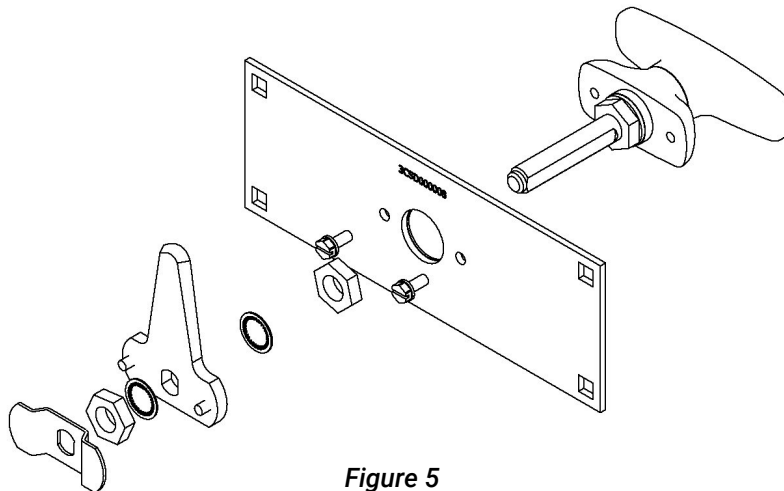

Figure 5
- A. T-handle: Place T-handle on the front face of lock plate and secure to the back side with screws provided. This lock has an adjustable pawl. Make sure the depth is set with the two jam nuts so that it engages in the catch. See Figure 5. The part number should face the inside of the drawer.